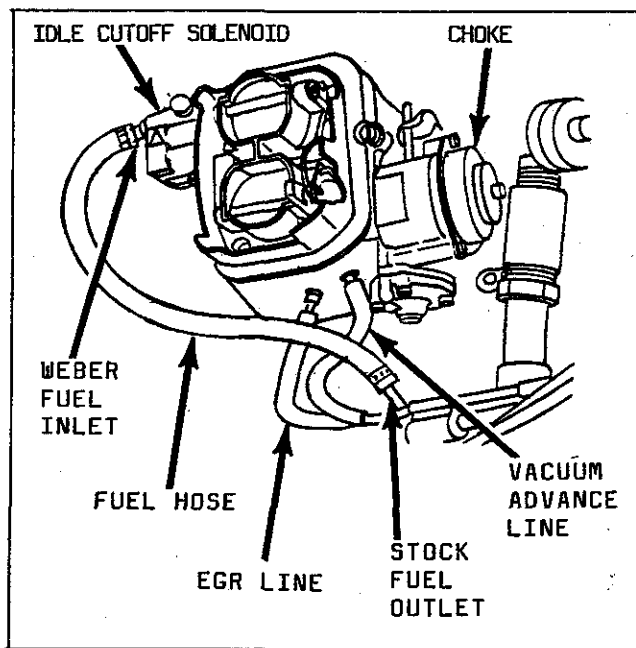

Figure 6
19. Reconnect blue electric choke wire and red idle cutoff solenoid wire to corresponding units on the Weber carburetor. See figure 6.
20. Connect the fuel hose supplied in the kit from the stock Datsun fuel outlet to fuel inlet on the Weber carburetor. Secure hose with clamps supplied. See figure 6.
21. Connect the EGR and Vacuum Advance lines with the EGR line nearest the firewall and the Vacuum Advance line toward the front of the vehicle. See figure 6.